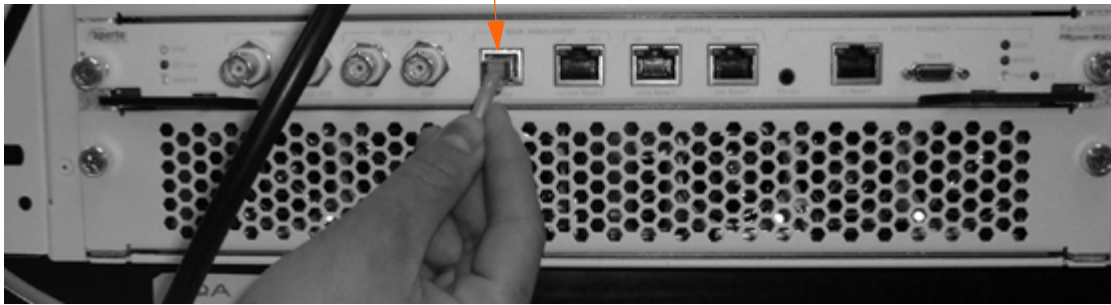

Figure 3-9 Connecting DB 9 serial cable to Management Port
- Use one end of a RJ11 Connector with DB 9 Serial Cable and connect to the management port on the MSC card as seen in Figure 3-9. Connect the other end of the serial cable to the ethernet port on a computer or switch.